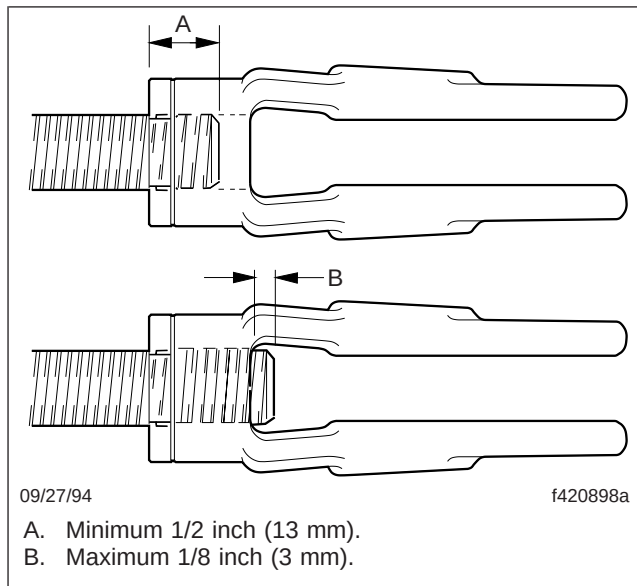

Fig. 7, Check Pushrod Engagement
- 7.12 Make sure there is at least 1/2 inch (13 mm) of thread engagement between the clevis and the pushrod. Also, check that the pushrod does not extend through the clevis more than 1/8 inch (3 mm). See **Fig. 7**.